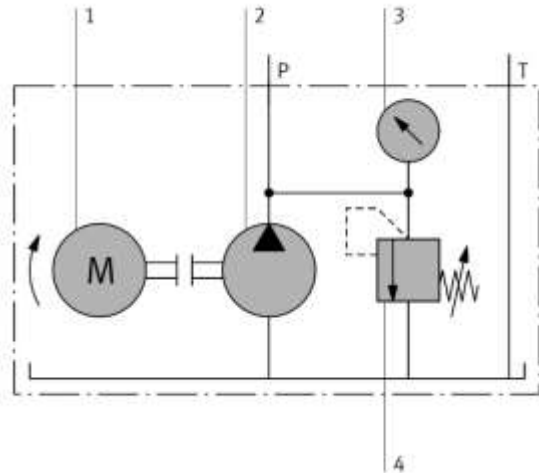

Figure 1
(ii) A force of 100 N is applied to the brake pedal as shown in Fig 1, which acts on the cylinder-called the master-through a lever. A force of F_1 is exerted on the master cylinder. Pressure created in the master cylinder is transmitted to four so- called slave cylinders. The master cylinder has a diameter of 0.5cm, and each slave cylinder has a diameter of 2.5cm. Calculate the forces F_1 and F_2 .
(Fig 1)
- Name the circuit symbols (No.1-4) shown in figure 1 and briefly describe the function of its components